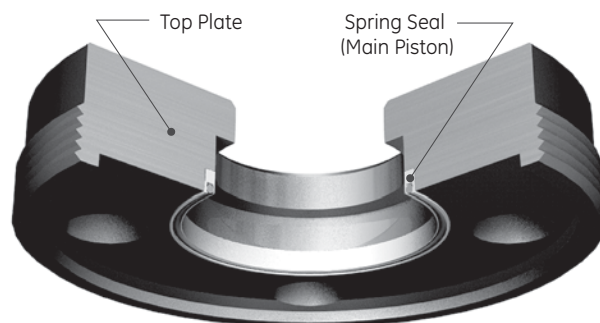

Figure 50: Top Plate (39PV07)
- a. Lubricate the Spring Seal (Main Piston) and Top Plate gland. Install the Spring Seal (Main Piston) into Top Plate. The spring should be oriented as shown in Figures 50 or 51.
- a. Lubricate the Spring Seal (Main Piston) and Top Plate gland. Install the Spring Seal (Main Piston) into Top Plate. The spring should be oriented as shown in Figure 50.